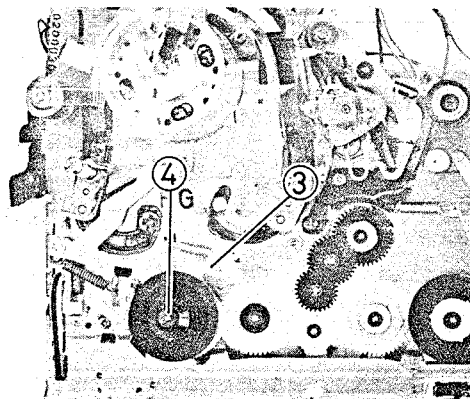

Fig. 2-100 Supply Reel Disk Removal
Supply Reel Disk Removal (Fig. 2-100)
3. Release the supply sub brake. (See Fig. 2-100)
4. Remove one (1) washer and pull out the supply reel table.